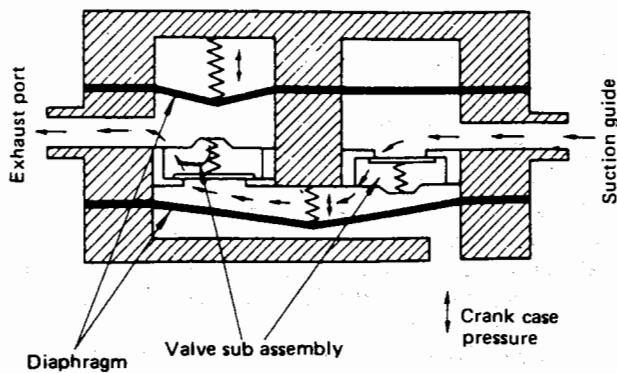

Fig. 101 Fuel pump mechanism
1) The fuel pump of this motor is installed in the side of the crank case with 2 pan head machine screws with a packing. This pump is a diaphragm type in which the fuel is fed taking advantage of crankcase pressure. The principle is as shown in the Fig. 101.